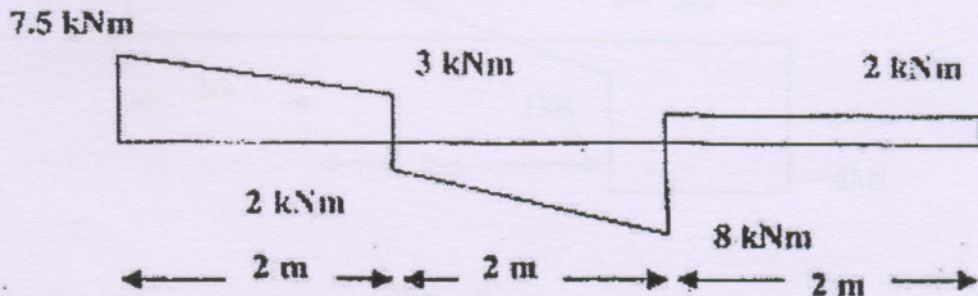

Fig. 3
- (b) Fig. 3 shows SFD for a beam which rest on two supports, one being at left hand end. From given SFD, plot the loading diagram and BMD.